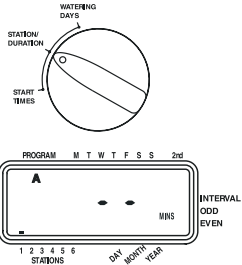

Figure 6: Station Duration for Program A
- Turn the rotary dial to the Station Duration position in either the A or B program. The display will show which program you have selected with an "A" or "B" and the - - MINS and the cursor blinking at station "1" [See Figure 6].